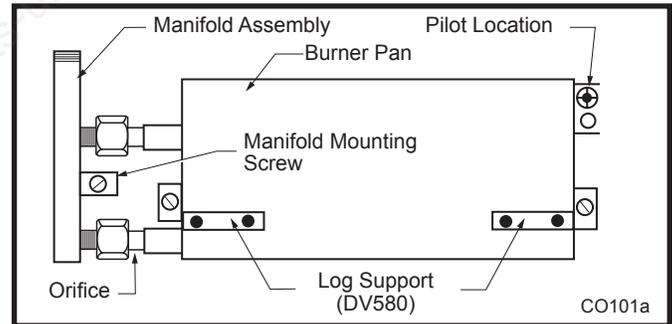

Fig. 69 Remove manifold assembly.
- Remove manifold mounting screw from burner. (Fig. 69)
- 1. Remove manifold mounting screw from burner. (Fig. 69)